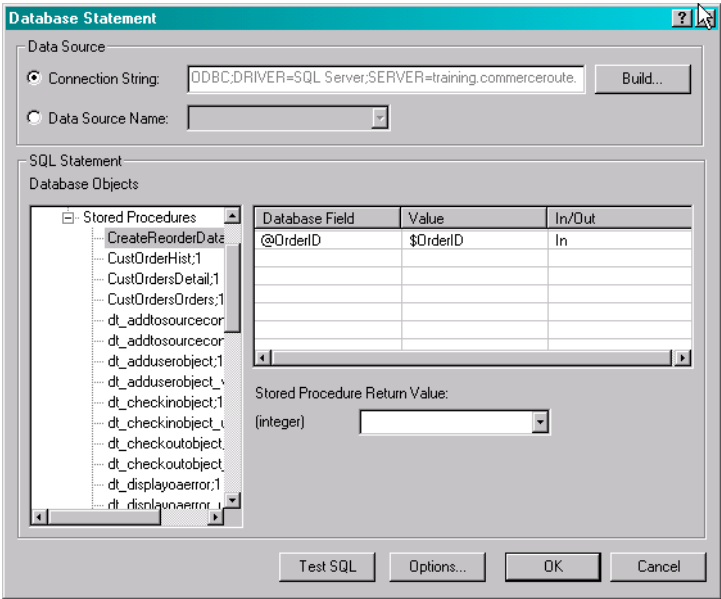

Figure 28-35. The Database Statement dialog with a Stored Procedure selected.
- ① The CRPROC database appears in the database objects window area. Click on “+” next to the Stored Procedures to view the list of procedures.
- ② Double-click on the **CreateReorderData;1** procedure.
- ③ Now drag the \$OrderID data element from the Available Data Elements window and drop it in the **Value** column next to the @OrderID database field. Compare your work to Figure 28-35, below.